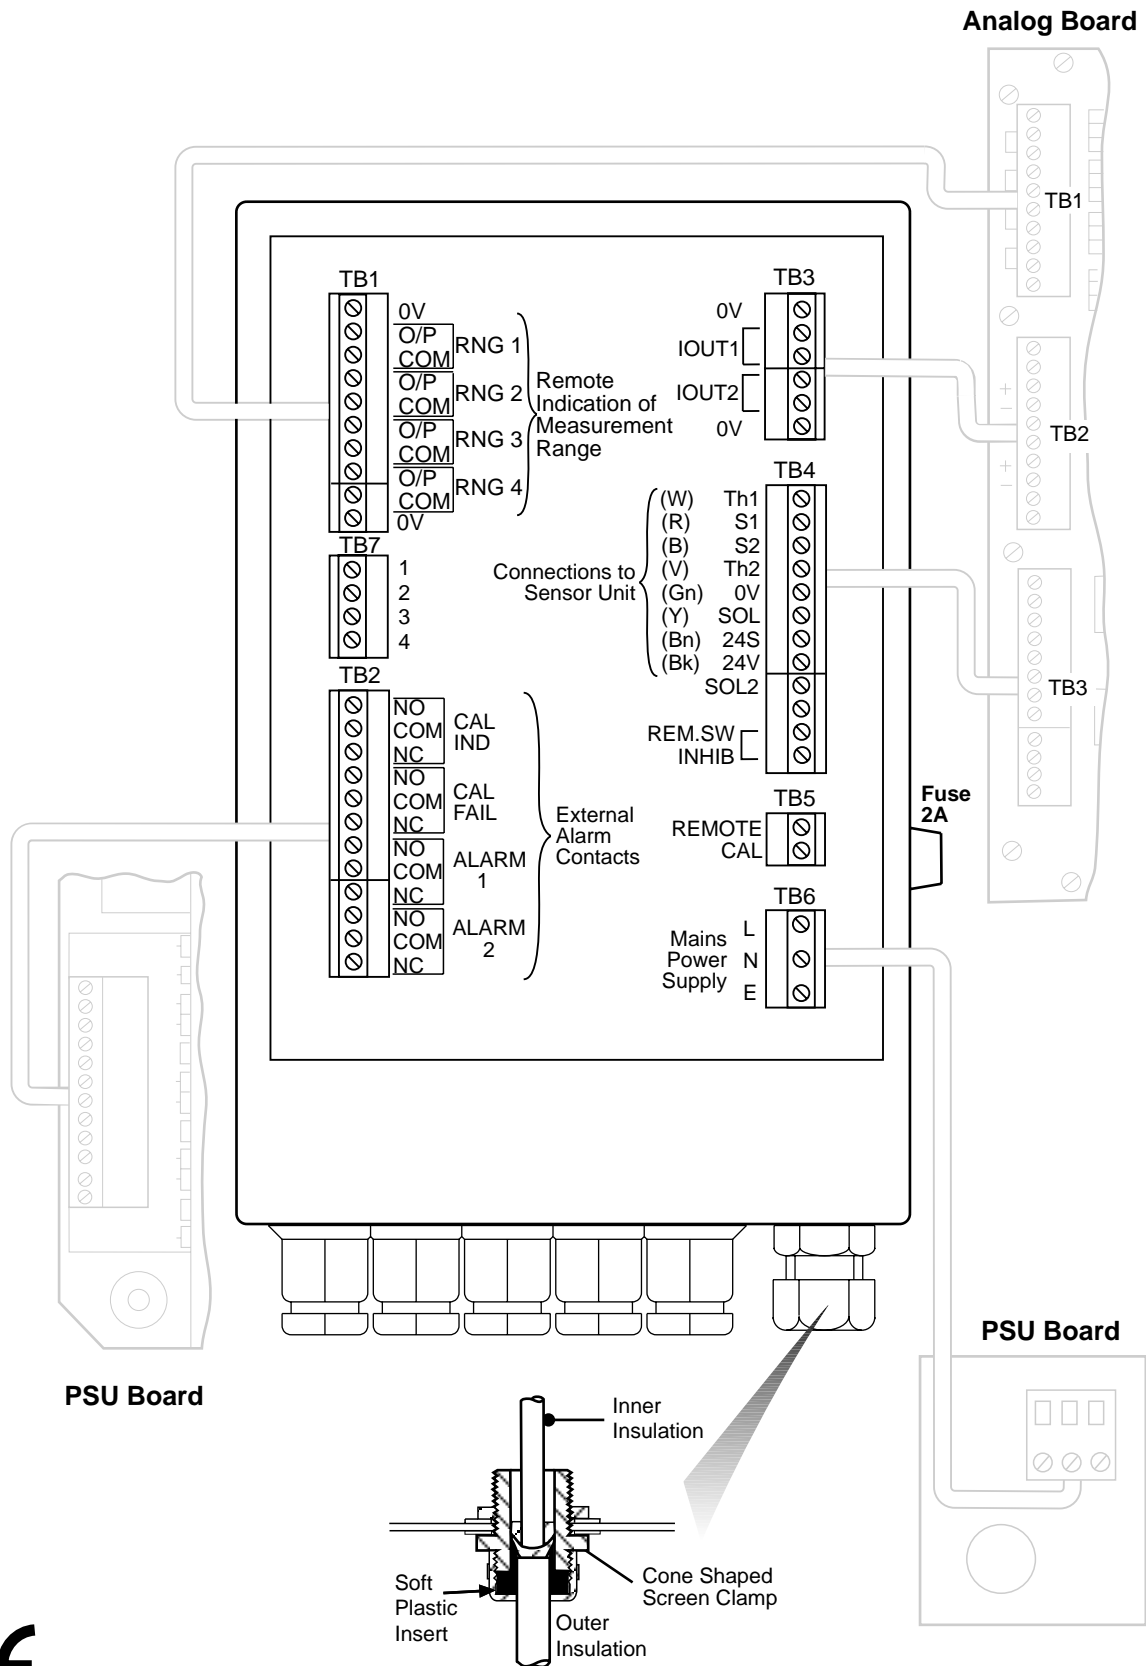

Fig. 2.7 Transmitter Unit Electrical Connections and Internal Interconnections
2.4.2 The CE Approved Transmitter Unit (Fig. 2.7)
- Noting that the screening braid terminates at the cable gland and is prepared as shown in Fig. 2.7, prepare the cable end and attach it to the terminal block TB4.